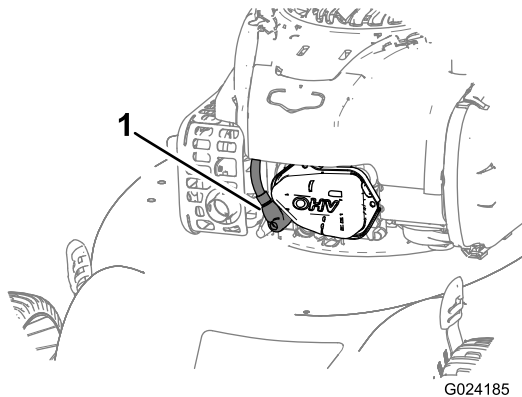

Figure 14
2. Disconnect the spark-plug wire from the spark plug (Figure 14) before performing any maintenance procedure.